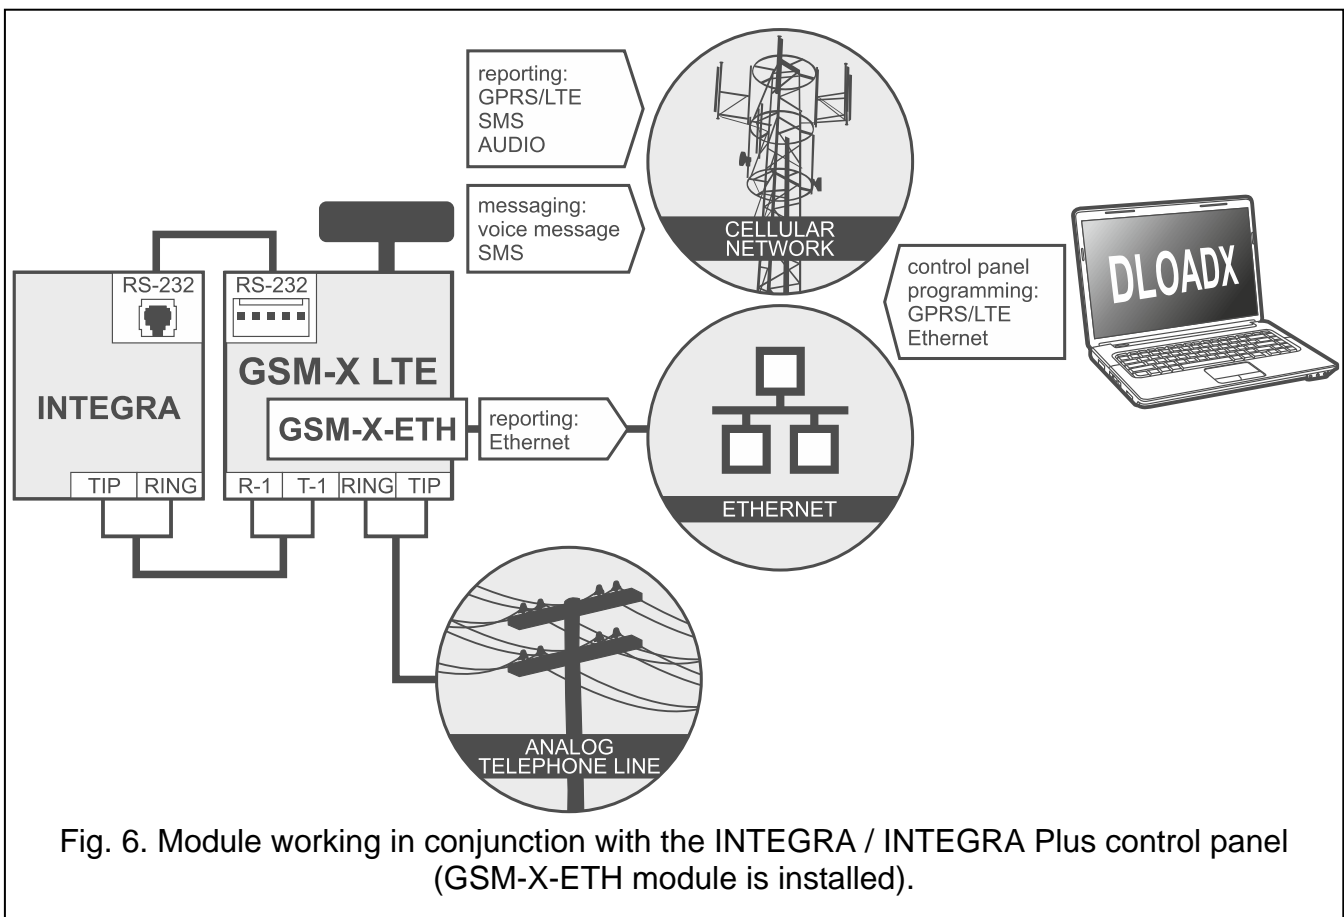
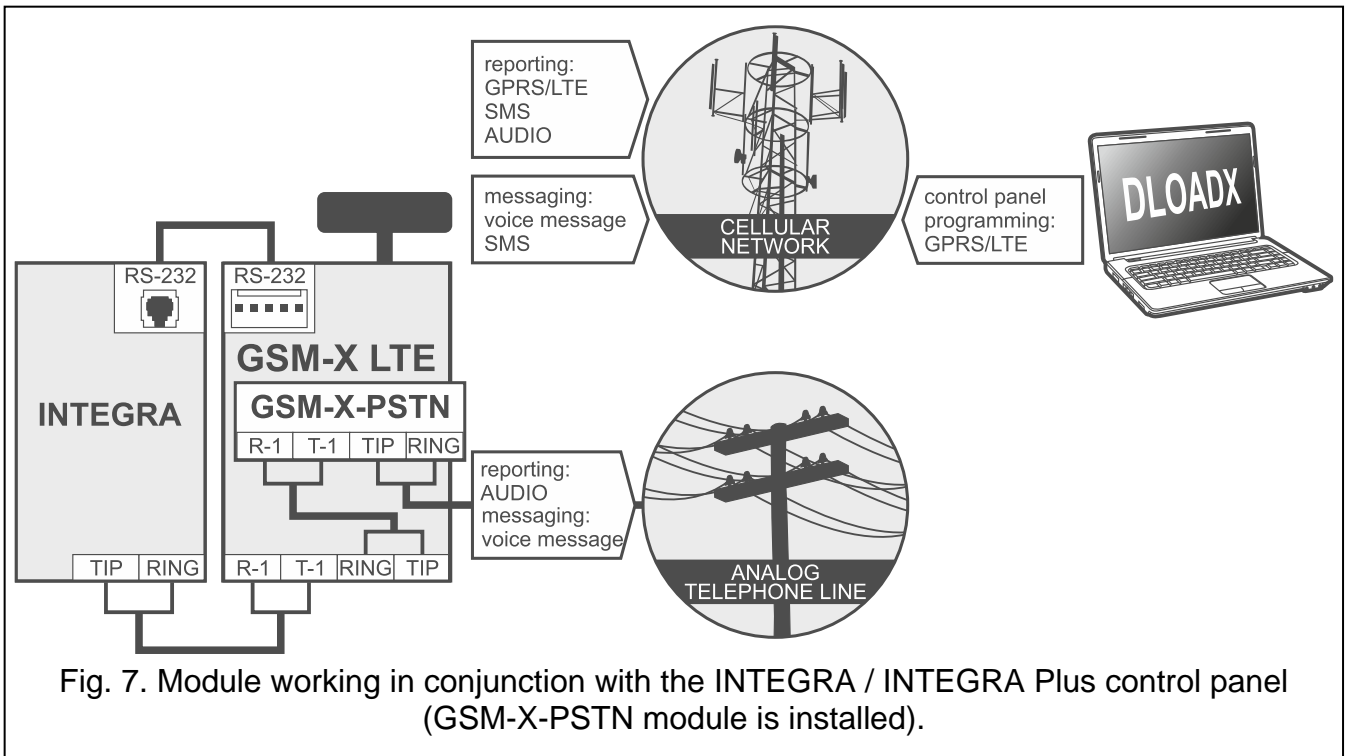

Fig. 6. Module working in conjunction with the INTEGRA / INTEGRA Plus control panel (GSM-X-ETH module is installed).
Fig. 7. Module working in conjunction with the INTEGRA / INTEGRA Plus control panel (GSM-X-PSTN module is installed).
- transmission of event codes to the monitoring station via cellular or, optionally, Ethernet network (if GSM-X-ETH module is installed – Fig. 6) / PSTN network (if GSM-X-PSTN module is installed – Fig. 7),
- voice messaging via PSTN network (if GSM-X-PSTN module is installed – Fig. 7),